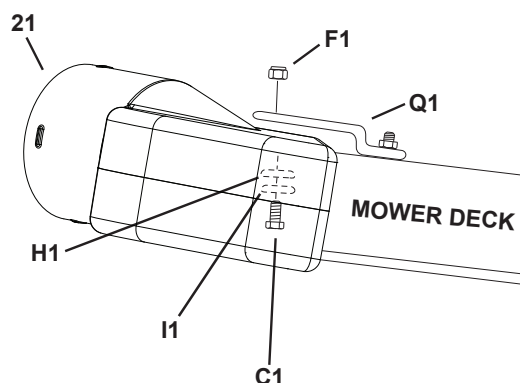

FIGURE 27
- With deck adapter positioned correctly over the discharge opening, use the adapter bracket (Q1) as a template and drill three 9/32" diameter holes in the top of the deck adapter. See figure 27.
- Bolt deck adapter (21) to bracket (Q1) using three 1/4" x 1" bolts (C1), 3/4" nylon washers (H1), 47/64" flat washers (I1) and 1/4" nylock nuts (F1). Nylon washers (H1) should be against the inside of the deck adapter. Tighten hardware. See figure 27.